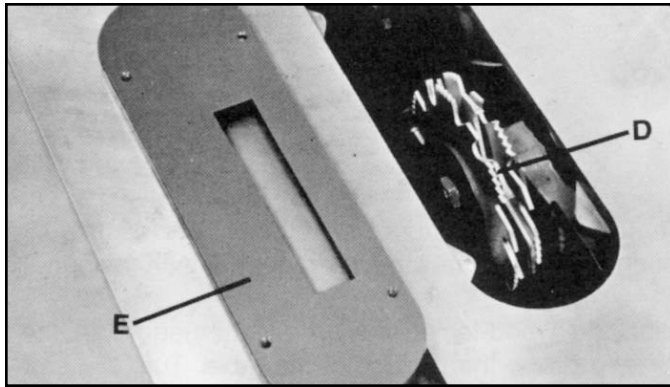
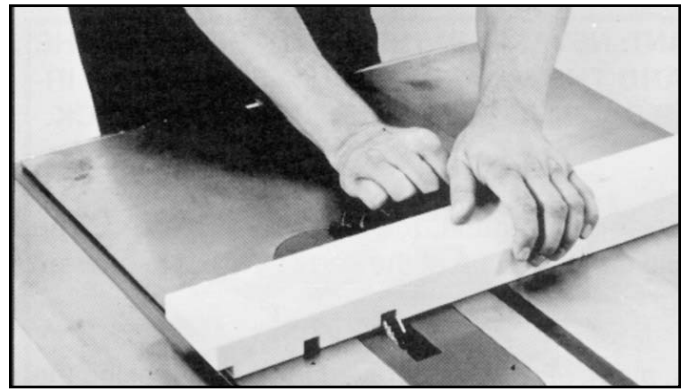

Fig. 40
Fig. 41
The dado head set (D) Fig. 40, is assembled to the saw arbor as shown. **IMPORTANT:** The blade guard and splitter assembly cannot be used when dadoing and must be removed. Auxiliary jigs, fixtures, push sticks and feather boards should also be used. Also, the accessory dado head table insert Delta model 38122 (E) Fig. 40, must be used in place of the standard table insert. Fig. 41, shows a typical dado operation using the miter gage as a guide.